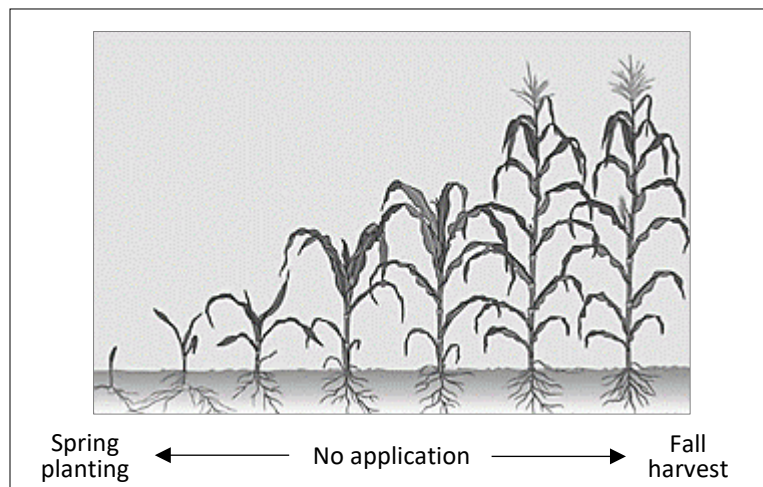

Figure 8-17. When applying to fields where row crops are grown, residuals are applied prior to planting and/or after harvest. Dates vary across the state.
- ❑ **Row Crops.** Row crops limit the time of year during which residuals can be applied. Most farmers will not allow application equipment on row crops during the growing season (Figure 8-17). Consequently, residuals must be applied in the spring before planting or in the fall after harvesting. At these times, you can drive equipment over the soil, apply residuals in any form, and inject or incorporate them.